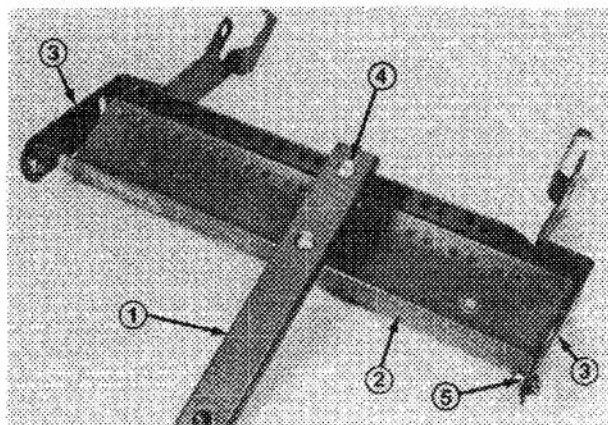

Figure 1
1. Mount caster frame to main frame with (2) 5/16-3/4 lg. carriage bolts and locknuts as shown in Figure 1.
2. Mount front of right and left side frames to main frame with a shoulder screw and locknut as shown in Figure 1. Note position of side frames.